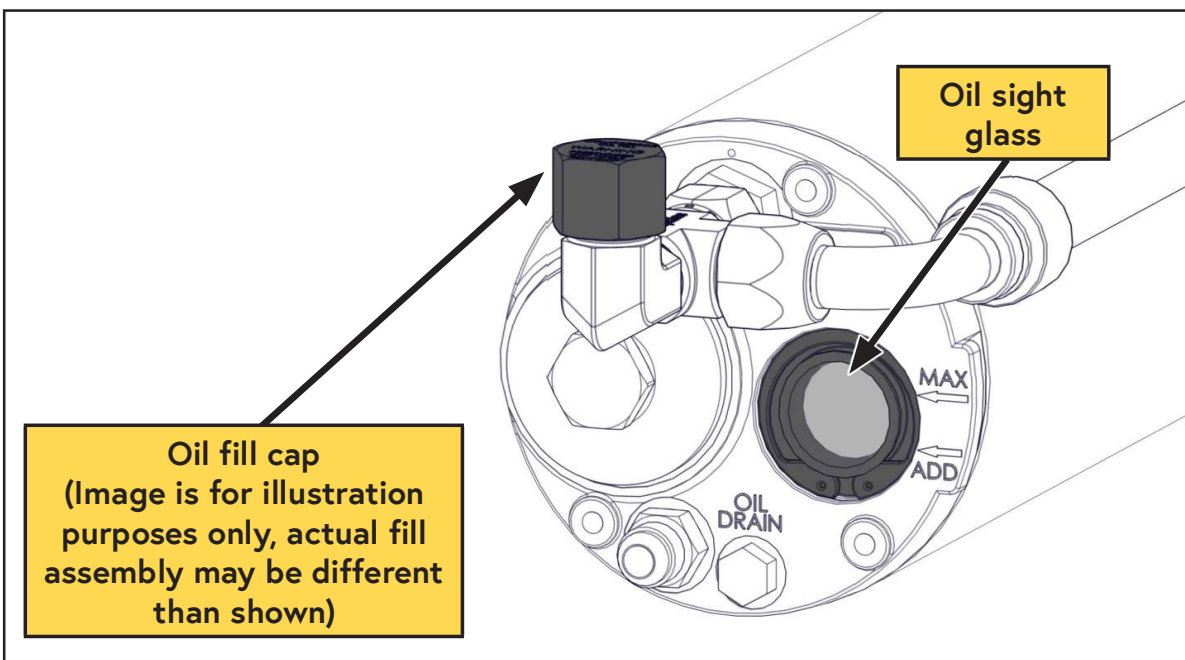

Figure 3 — Adding oil to the system
- Slowly add VMAC Compressor oil until the oil level is correct (Figure 3).